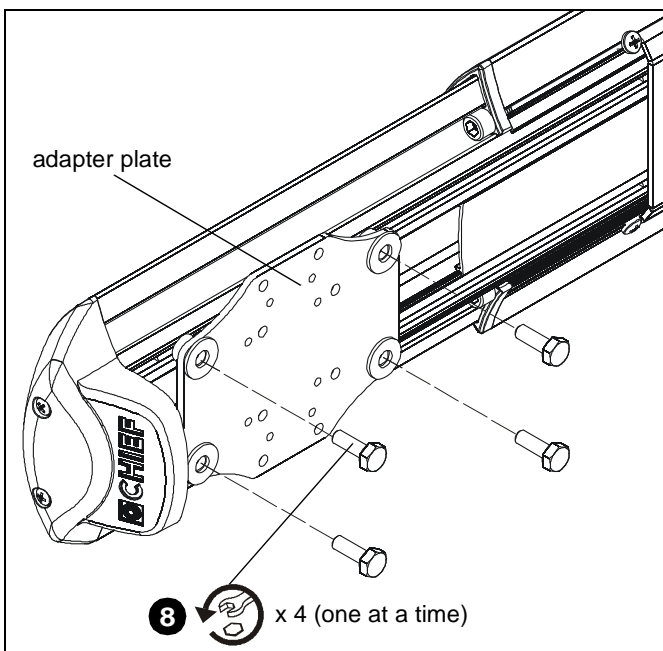

Figure 47
8. Remove one of four bolts from adapter plate. (See Figure 47)